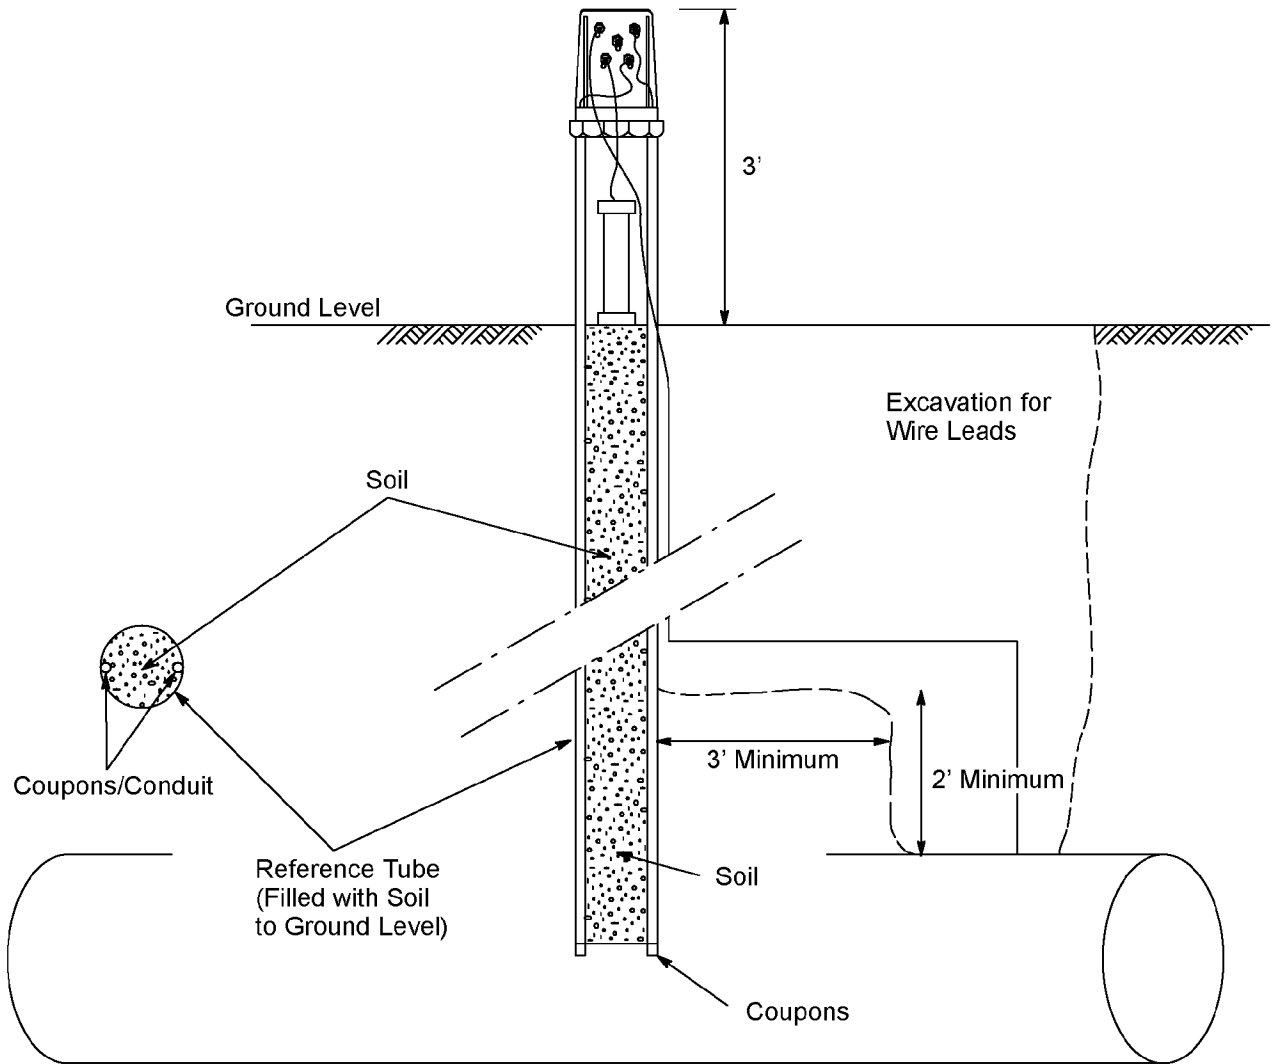

Figure 2
4. Insert the coupon-test-station assembly into the hole (See Figure 2 on Page 4). Each assembly contains two coupons. Make sure that the two coupons are lined up parallel to the pipeline (i.e., both are the same distance from the side of the pipeline). The coupon with white wires should be line up to either the north or the east.